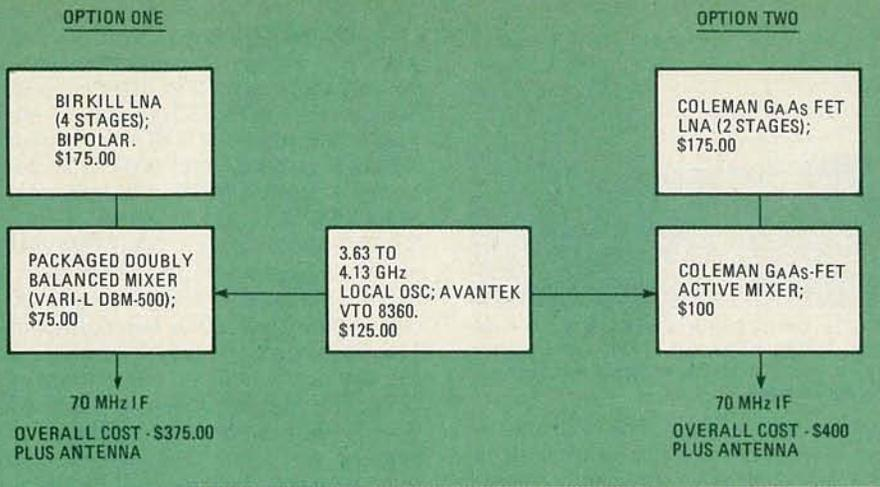

FIG. 2—TWO DESIGN APPROACHES to receiving satellite broadcasts. The Birkill approach is shown in option 1 while the Coleman approach is shown in option 2.
Electronic gain is least expensive to come by at the lowest frequency to be used in the RF portion (the 70 MHz IF) but unfortunately we cannot place all of the gain here. Some gain must go at 4 GHz as well. In Fig. 2 we see two options open to us.
2. In option one (Fig. 2) we could build a four-stage bipolar LNA (the so-called Birkill HXTR series LNA named after its developer Steve Birkill), follow this with a state-of-the-art doubly-balanced (passive) mixer such as the VARI-L DBM 500 4 GHz to 70 MHz (IF) package, and end up at 70 MHz with a total cost to that point of \$675 including the antenna.
3. In option two (Fig. 2) we can build a two-stage Coleman GaAs-FET LNA and follow this with a single-stage Coleman GaAs-FET active mixer, again ending up at a 70 MHz IF for a total material cost of \$700 including the antenna.